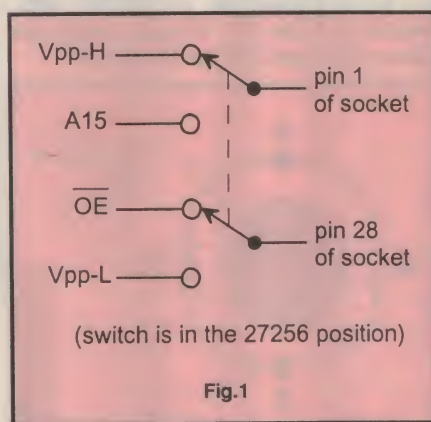

Fig.1
5. Wire up the DPDT switch as shown in Fig.1.